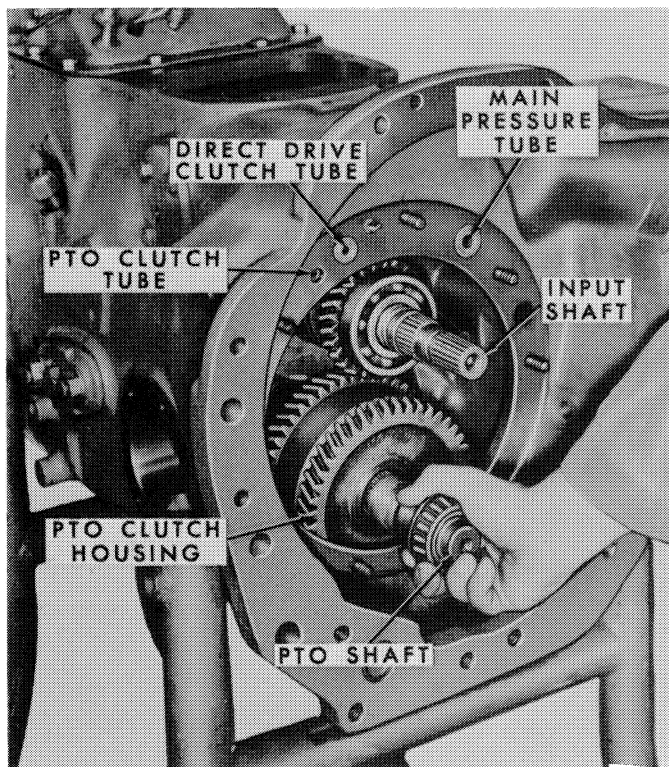

Figure 64
5. Remove the front P.T.O. shaft from the clutch pack on two-speed P.T.O. models by prying between the washer and clutch housing and pulling the shaft forward, as shown in Figure 64. Removing the transmission side inspection cover will aid shaft removal.
6. Remove the main pressure tube and front direct drive clutch tube by pulling the tubes forward and out of the case. Refer to Figure 64.
6. Install the three shaft seals on the P.T.O. shaft and center them, using Vaseline. Install the shaft in the front of the clutch housing while at the same time holding the P.T.O. hub. See Figure 64. Through the cover opening install the spacer and rear bearing adapter on the shaft as it is inserted through the housing.